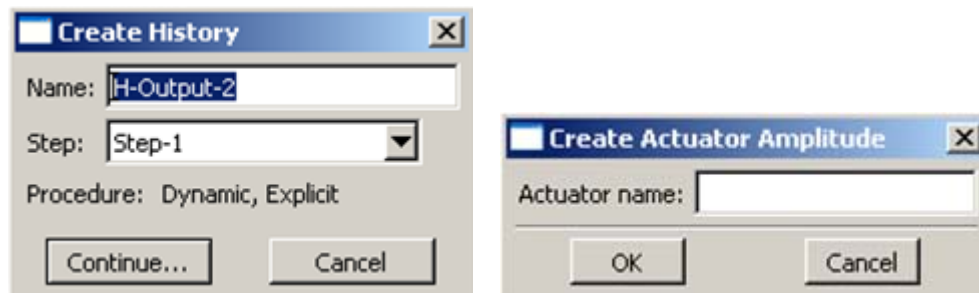

Figure 3-4: Create History and Create Actuator Amplitude dialog boxes
- **Create Sensor:** This button can be used to create a new Sensor History output in the displayed Abaqus/CAE model. Clicking this button launches the Abaqus/CAE dialog to create History Outputs (Figure 3-4). Note that Sensors can be created only when domain **Set** is selected and **Include sensor when available** is toggled on.
- **Create Actuator:** This button can be used to create a new Actuator amplitude in the displayed Abaqus/CAE model. Clicking this button launches a dialog prompting for the Actuator name (Figure 3-4) for the amplitude to be created.
- **Create Actuator:** This button can be used to create new Actuator amplitude in the displayed Abaqus/CAE model. Clicking this button launches a dialog prompting for the Actuator name (Figure 3-4) for the amplitude to be created.